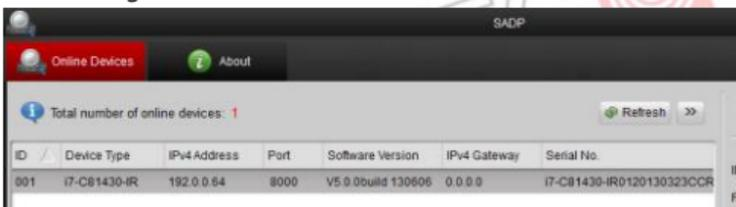

Figure 3-3 Select a device
- 1). Left click to select a device to be modified in the device list as shown in Figure 3-3. The network parameters of the device will be displayed in the Modify Network Parameters panel on the right side as shown in Figure 3-4.